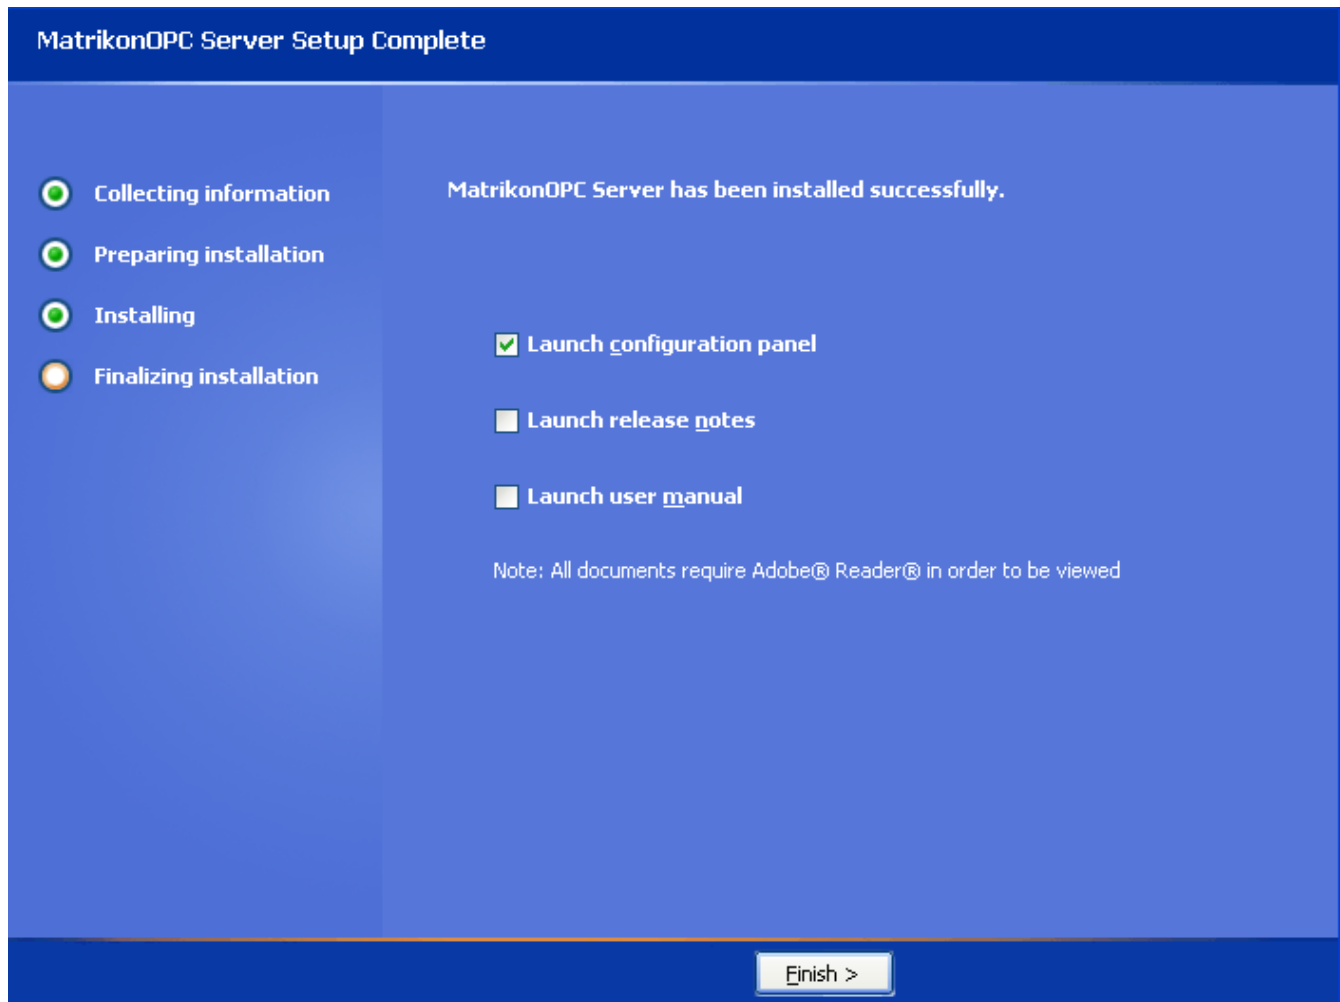

Figure 68 - MatrikonOPC Server Setup Complete Screen
21. When the installation has finished, the **MatrikonOPC Server for Triconex Setup Complete** screen (Figure 68) appears stating that the MatrikonOPC server has been successfully installed.